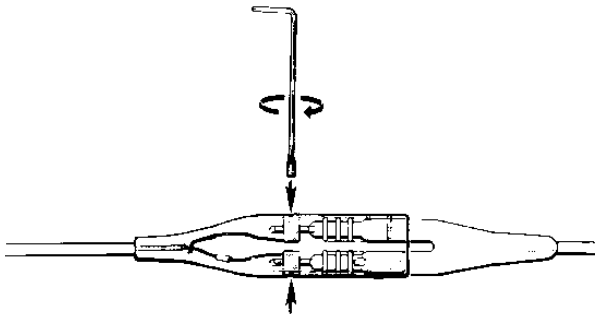

Figure 2. Turn the setscrews into the threaded holes on each side of the adaptor
3. Use the supplied hex wrenches with setscrew attached and turn a setscrew into each threaded hole located on each side of the receptacle end of the adaptor (see Figure 2).